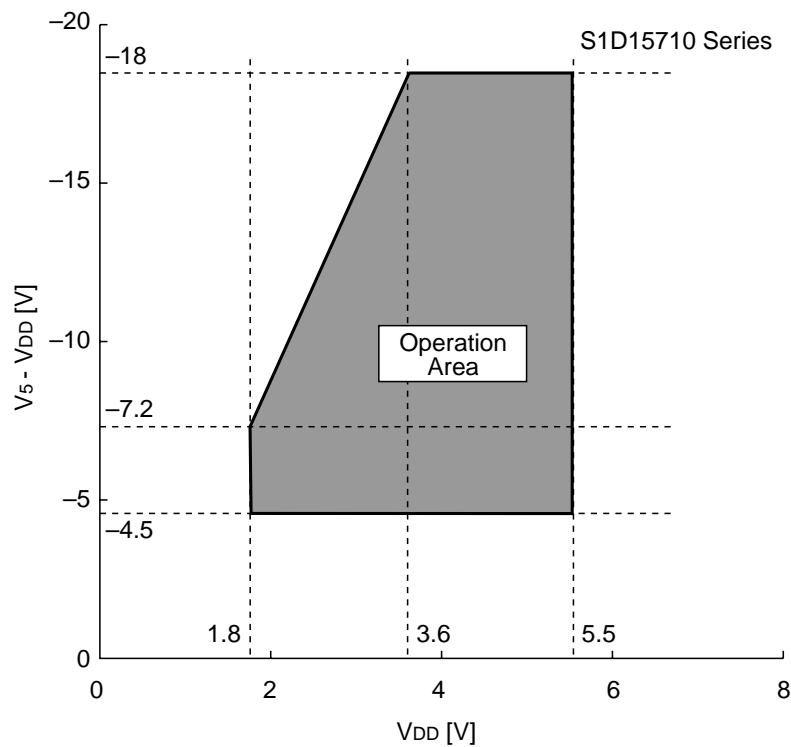

Figure 27
- *2 For the V_{DD} and V_5 operating voltage ranges, see Figure 27. These ranges are applied when using the external power supply.
- *3 A_0 , D_0 to D_5 , D_6 (SCL), D_7 (SI), \overline{RD} (E), \overline{WR} (R/W), $\overline{CS1}$, CS2, CLS, CL, FR, M/S, C86, P/S, \overline{DOF} , \overline{RES} , \overline{IRS} and \overline{HPM} pins
- *5 A_0 , \overline{RD} (E), \overline{WR} (R/W), $\overline{CS1}$, CS2, CLS, M/S, C86, P/S, \overline{RES} , \overline{IRS} and \overline{HPM} pins
- *6 Applied when D_0 to D_5 , D_6 (SCL), D_7 (SI), CL, FR, and \overline{DOF} pins are in the high impedance state
- *7 Resistance value when the 0.1 V voltage is applied between the output pin $SEGN$ or $COMn$ and power supply pins (V_1 , V_2 , V_3 , and V_4). Specified within the range of operating voltage (3)